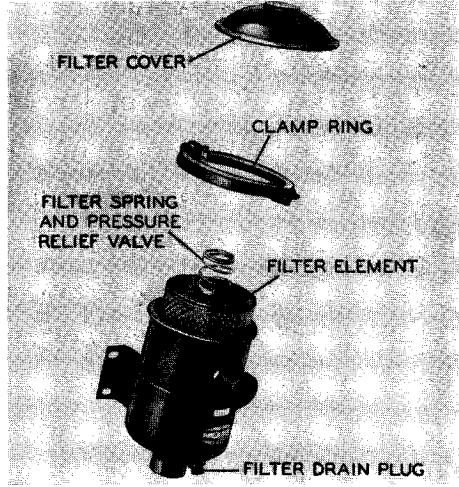

Figure 13. Transmission Filter Assembly
3. Remove the transmission filter drain plug, Figure 13.
4. To replace the contaminated filter element with a clean filter element, remove the clamp screws and ring, Figure 13.
5. Drain and flush out the filter body with clean fuel before installing the new filter element. After installing the new element, re-install pressure relief valve, spring, cover clamp ring and screws, Figure 13.